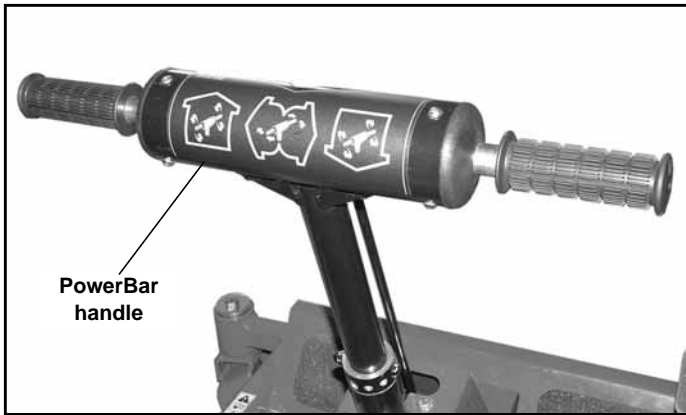

Figure 4-3
6. Place the PowerBar handle in the neutral position. Figure 4-3